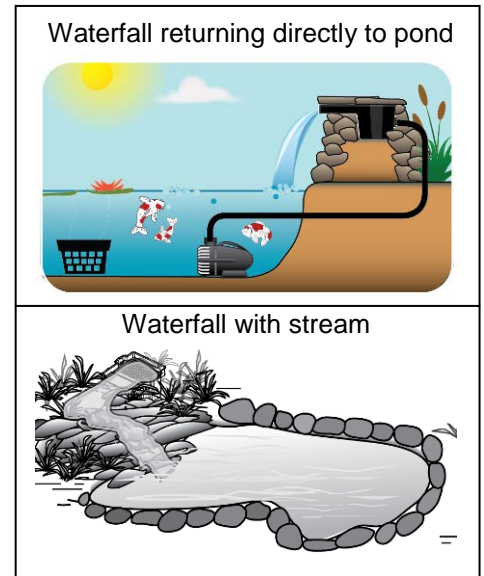

Fig. 1
1. Choose a location for your waterfall spillway, it can sit inside the liner or at the liner perimeter. Most of the time it is placed at the beginning of a stream. The important thing to remember is that all of the water coming out of the filter must stay within the pond liner to avoid water loss. Fig. 1